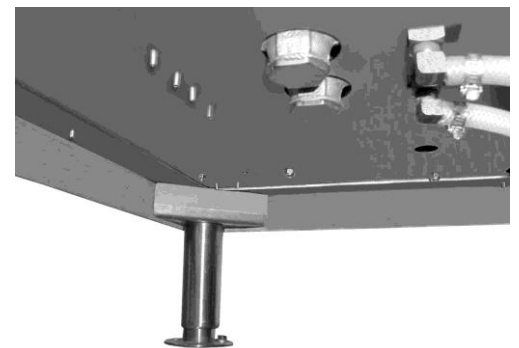

Fig. 3-2 Pre-installed Water Strainer Assembly
3. On some models the strainers are built into the steamer and are accessible from underneath the steamer (See Figure 3-2), otherwise the strainers should be installed upstream of the steamer in the water supply(s).